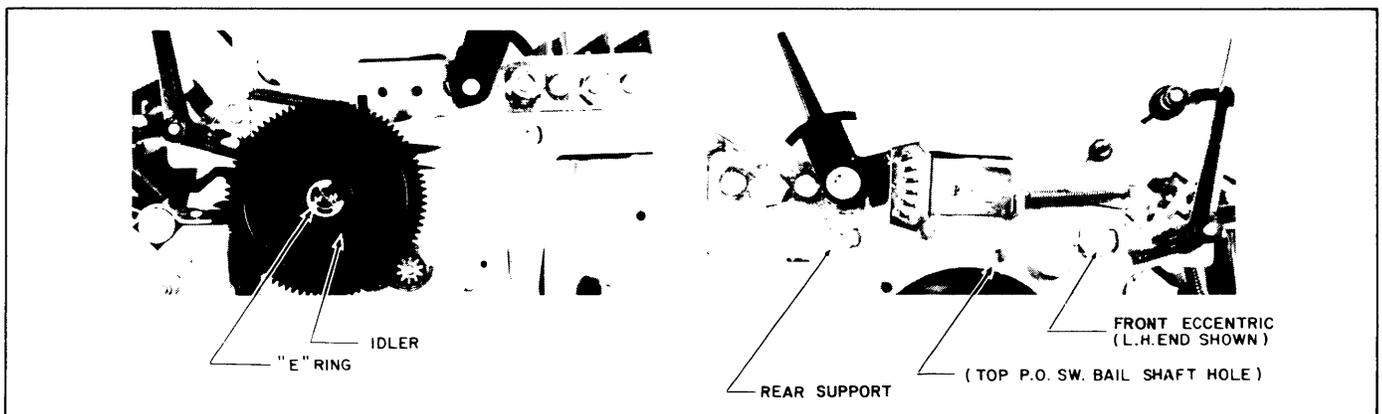

Figure 3-9. Carrier System Removal
- (5) Using a 1/4" wrench or nut driver, remove the left- and right-hand front carrier subassembly height adjustment eccentrics. Using a TORX T15 screwdriver, remove the left- and right-hand rear carrier subassembly support shoulder screws. Store these items in a safe place. Refer to Figure 3-9.